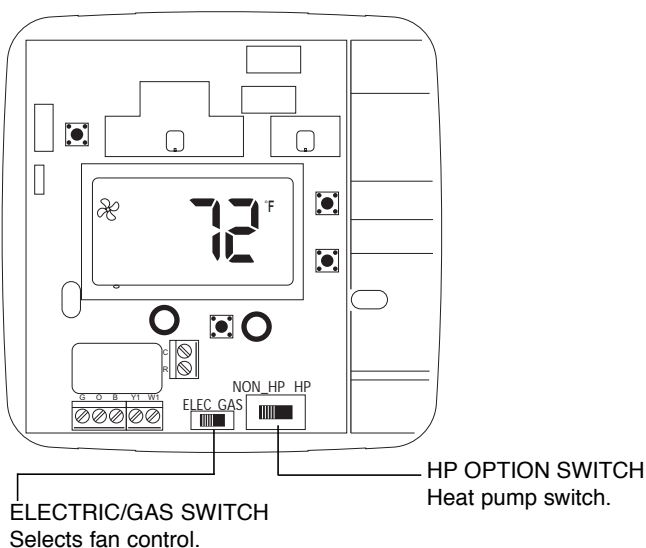

Figure 5
15. Set the Electric/Gas switch to either GAS for a gas/oil heating system or ELEC for an electric heating system (Figure 5).
16. Set the HP option switch to either the HP for heat pump or NON_HP for furnace applications (Figure 5).